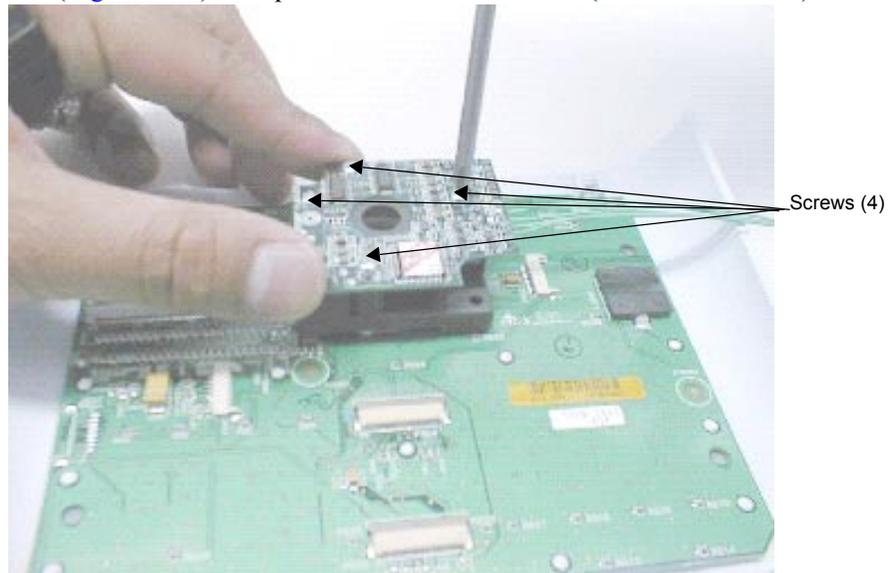

Figure 7.13 Securing the Trackball
4. Use a #1 Phillips screwdriver to tighten the four screws securing the Trackball (Figure 7.13). Torque the screws to 3.6 in./lb (0.4 newton meter).